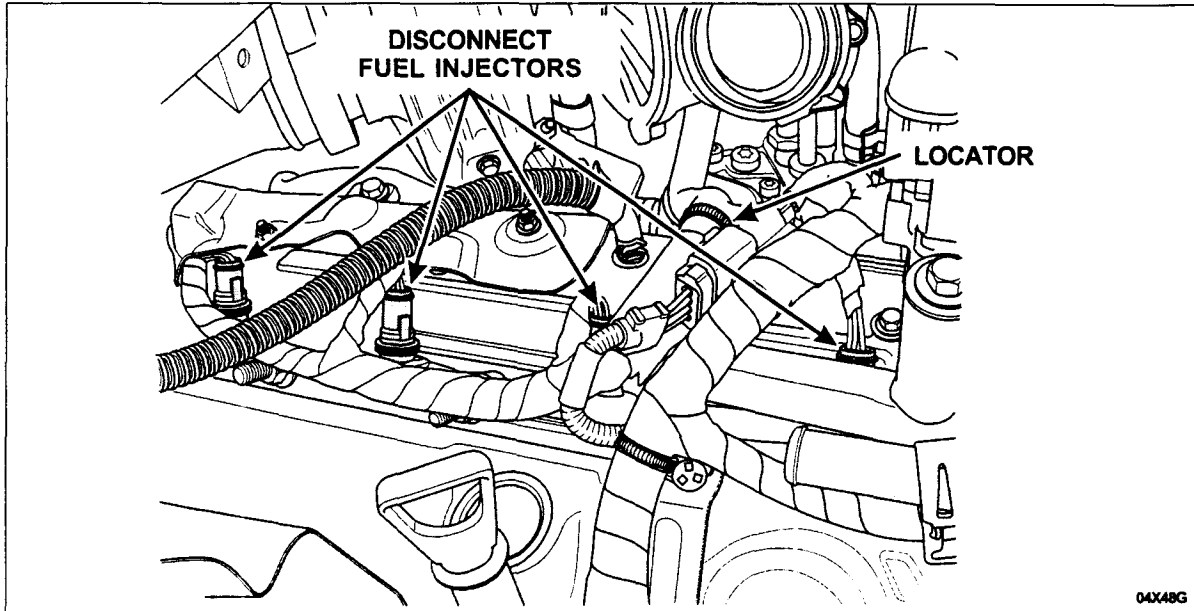

FIGURE 7
4. Disconnect the four (4) passenger-side injector connectors and the one (1) retainer located behind the alternator. Remove the harness from the vehicle by carefully pulling it from under the turbocharger towards the driver side of the vehicle. See Figure 7.